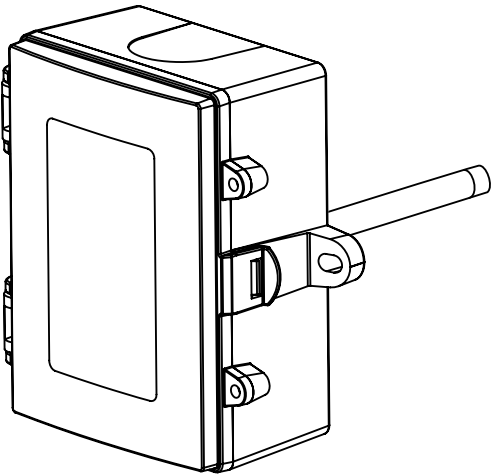

Figure 1
Slide the probe in the drilled hole until the enclosure is flush against the duct. The airflow direction is not important. Secure the enclosure to the duct with (2) #10 x 1" (25 mm) self tapping screws (not provided). Tighten screws until the enclosure is tight against the duct and that there is no movement of the enclosure as shown in Figure 1.